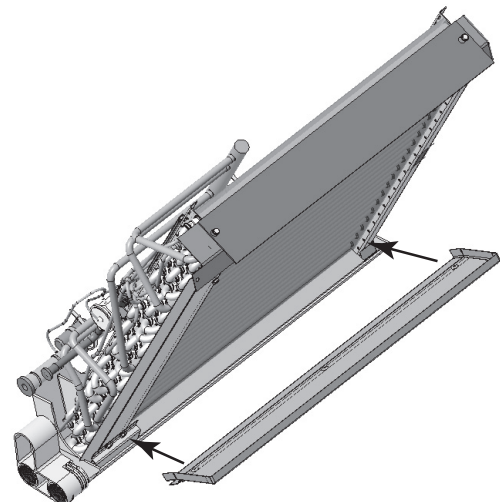
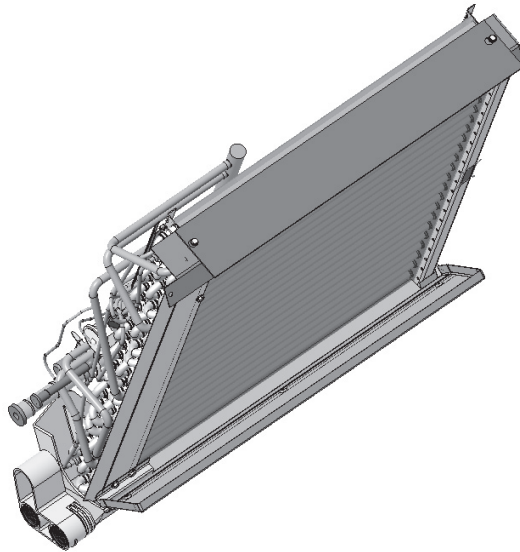

Fig. 6 – Optional Pan Extension
Fig. 7 – Optional Pan Extension Installed
2. Install the optional pan extension, per Fig. 6 and Fig. 7.